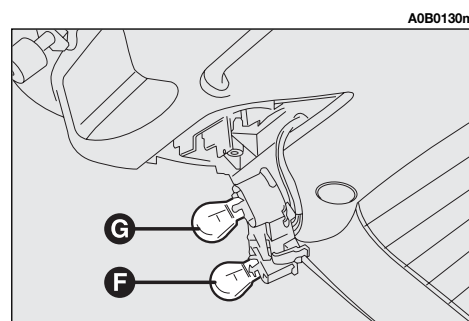

fig. 50
- Remove and replace the bulb concerned (spherical with bayonet coupling) pressing lightly and turning counterclockwise (fig. 50):